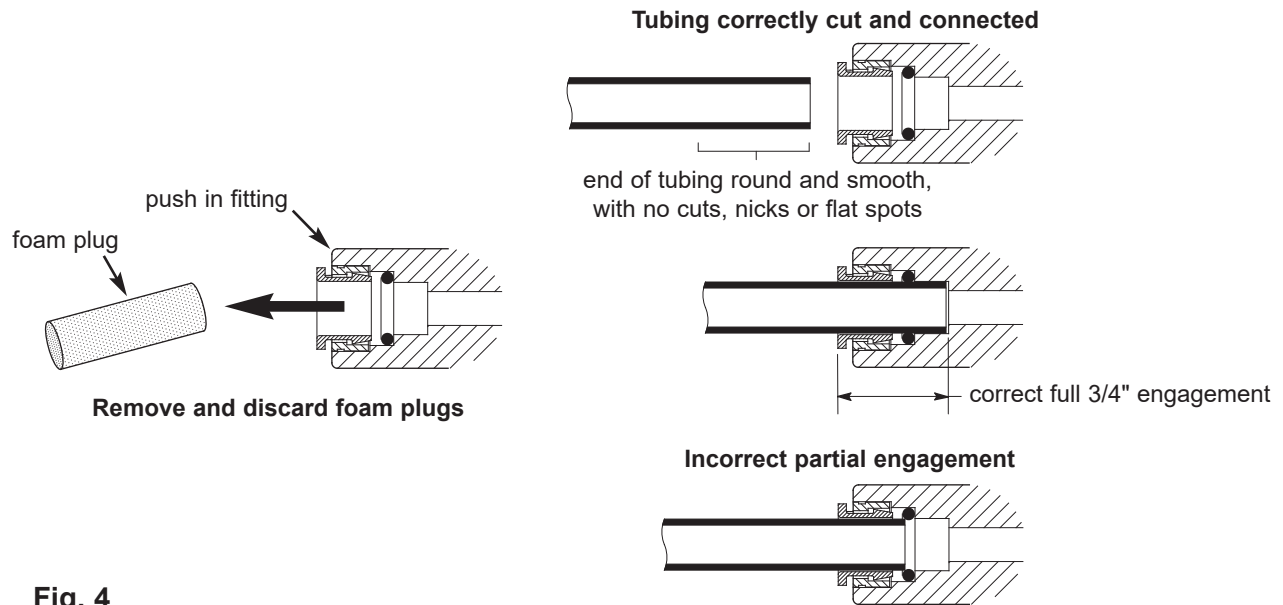

Fig. 4
**NOTE: Remove protective foam plugs before connecting tubes (See Fig. 4). Discard foam plugs.**